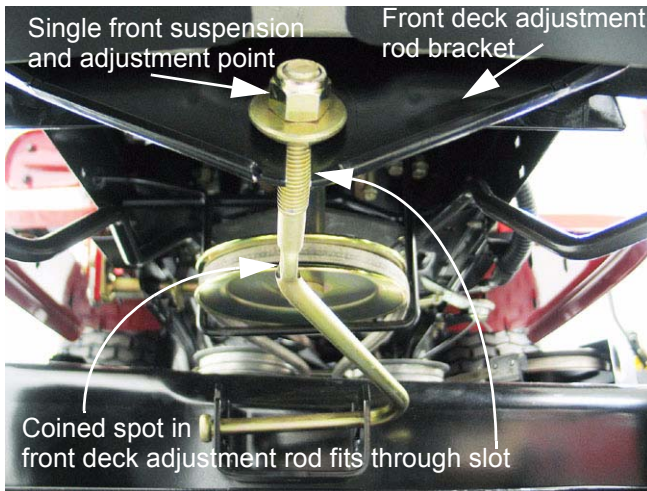

Figure 2.3
- 2.3. The new deck uses a three-point mounting system. See Figure 2.3.